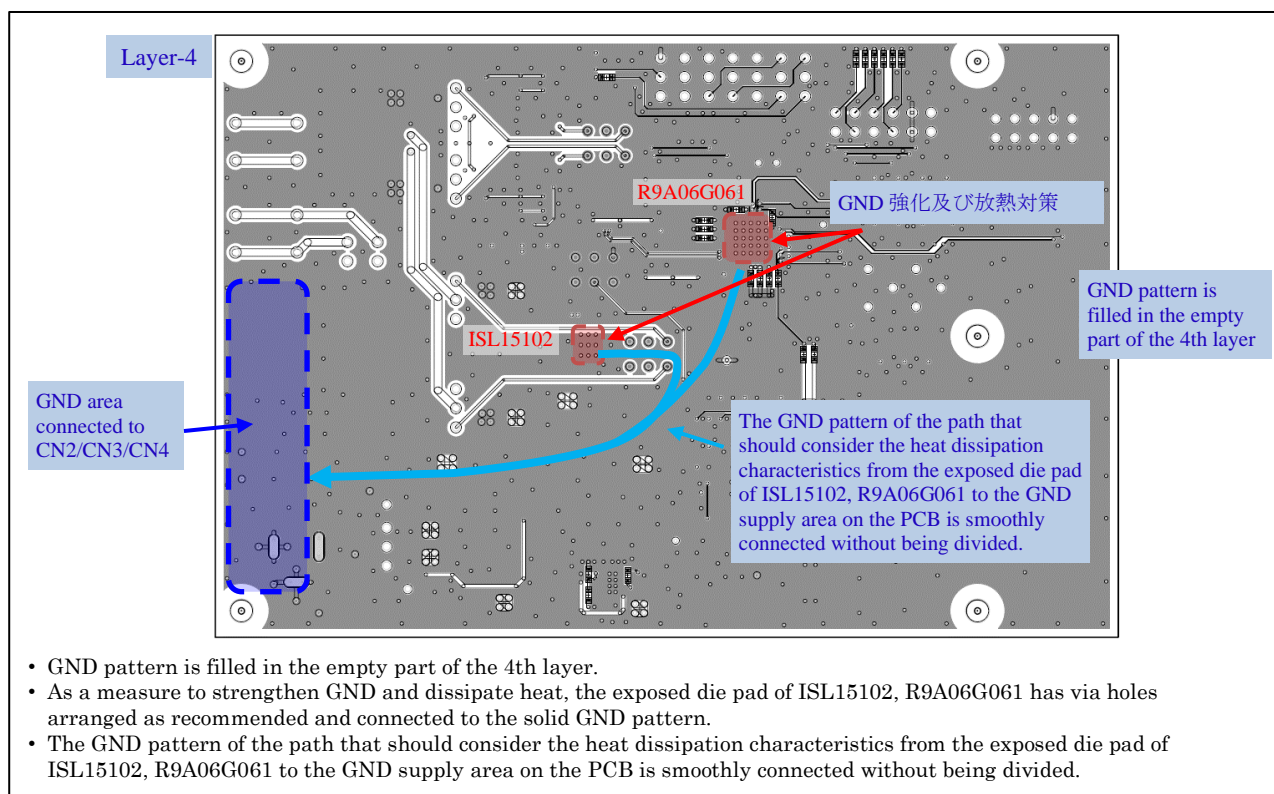

Figure 5-5 Example of connection between exposed die pad of R9A06G061 and ISL15102 and GND pattern (4th Layer)
- In the 4th layer, the GND pattern is especially important for heat dissipation design. In order to further improve heat dissipation performance, widen the area of the GND pattern and connect the Exposed die pad of R9A06G061, ISL15102 to the GND pattern. Then, connect as smoothly as possible so that there are no obstacles in the path to the Exposed die pad of the ISL15102 and the GND supply terminal on the PCB. (An example is shown in Figure 5-5.) (Reason: Since large current flows in ISL15102 (Power amplifier for transmission) when transmitting at low load, heat dissipation will deteriorate if the connection between the Exposed die pad of ISL15102 and the GND pattern is not appropriate. Then, the thermal shutdown function of the ISL15102 may intermittently stop the output of the signal.)